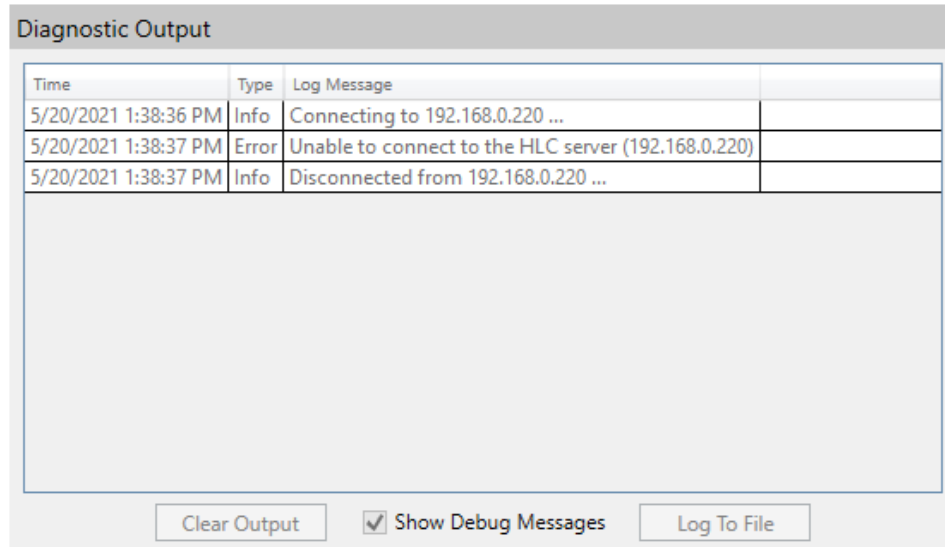

Figure 2-13: Connection Error
*If a connection is made to the HLC specified, the **Diagnostic Output** section shows information about the connection. If no connection is made to the HLC specified, a diagnostic message that describes the error is displayed in the **Diagnostic Output** section as shown in Figure 2-13.*